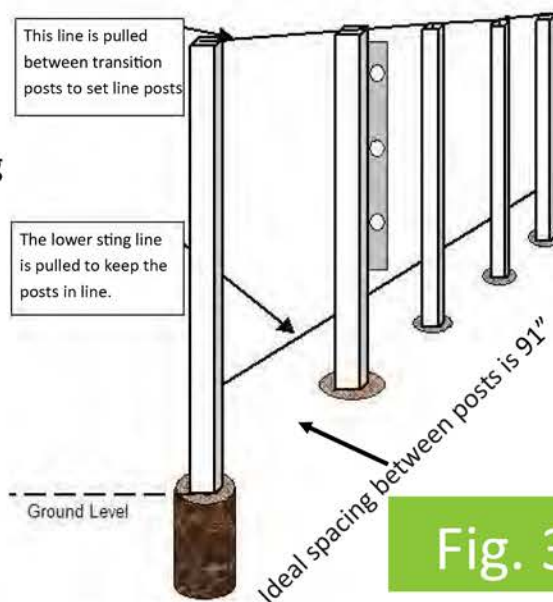

Fig. 3
1. Plumb and level each post to the string line using a post level or 4' level*. Make sure that the posts are next to but not pushing the string line. Fill the hole with concrete and brace if necessary until concrete is cured. Allow concrete to dry 24-48 hours (depending on temperature) before building (see Fig. 3).